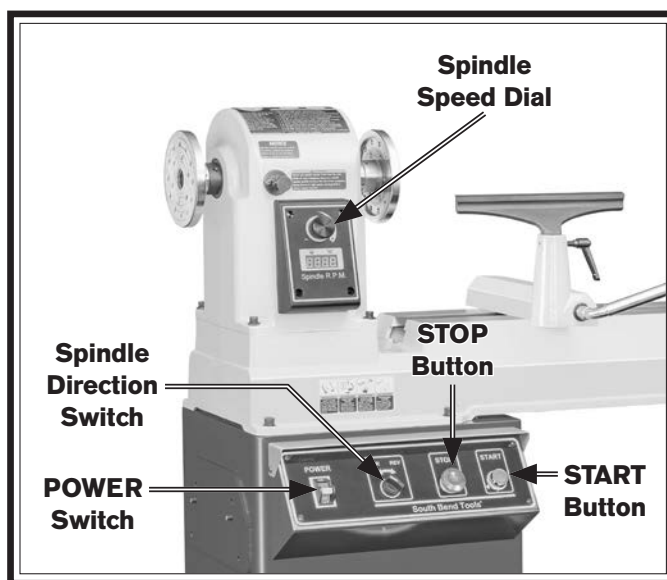

Figure 15. Location of main controls.
5. Move power switch to ON position, turn spindle direction switch to FOR, then press START button to start spindle rotation (see **Figure 15**).